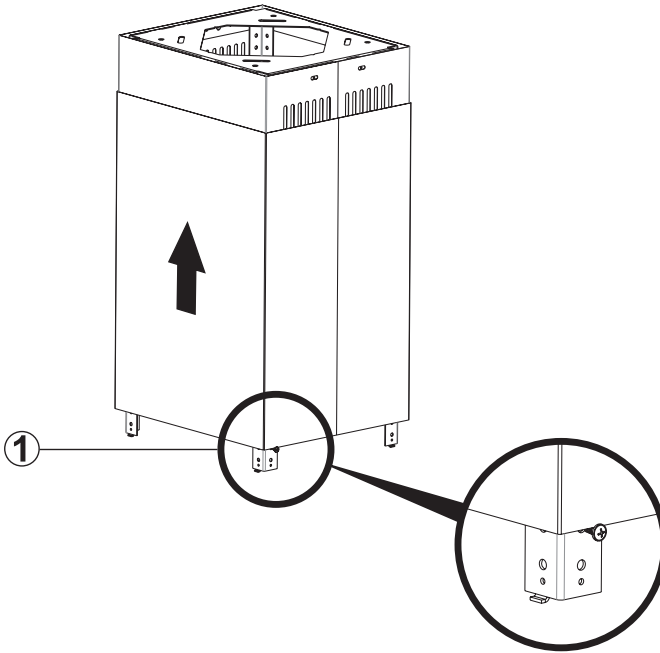

Figure 11: INSTALLATION AND PARTS SECTION 3
- Insert the product's sheet flues to the product hanger bars. Figure 11
- In order to have the sheet flues fixed on the hanger bars before installation, insert 3.5 x 9.5 screw (1) to the product hanger bar and leave the sheet flues on the screw. Figure 11
- Remove the sheet flue fixing screw (Page 15, Figure 11).